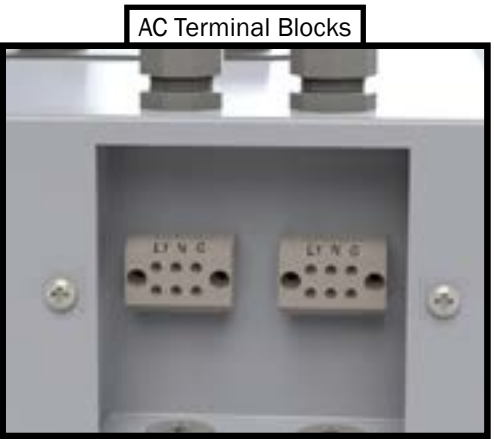

Figure 78
1. Run two 12-2 ROMEX wires with ground wires, from two over-current protected (20 amp circuit breaker required) 120 Volt-AC power supplies through the Aqua-Hot's cable clamp fitting and to the appropriate terminal block. Reference Figures 78 & 79.